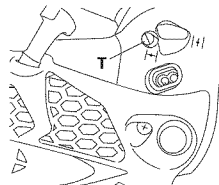

Fig. 28
**Carburetor adjustment (Fig. 28)**